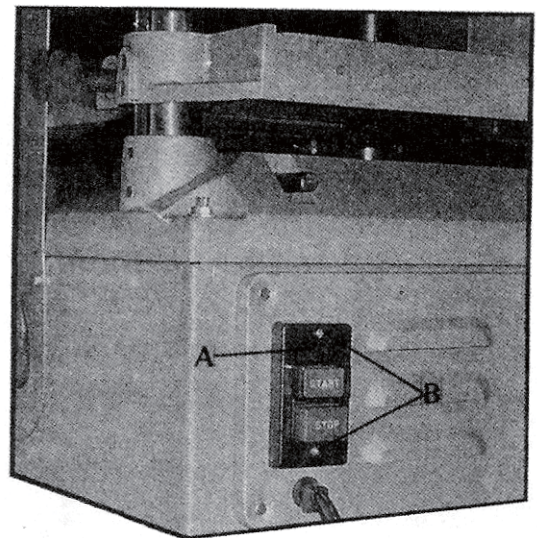

Fig. 9
If you purchased the three phase machine, it is necessary to assemble the switch and switch plate assembly (A) to the front left hand side of the planer, as shown in Fig. 9, using the two screws (B).